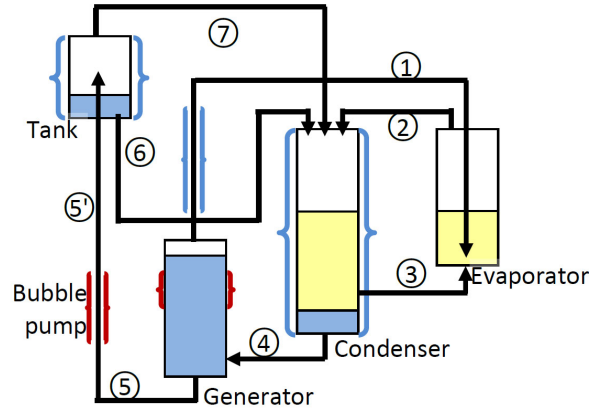

Figure Q2
2. Albert Einstein designed a 3.8 kW cooling capacity refrigerator (as shown in Figure Q2) operates at 0.4 MPa using butane, ammonia, and water. The temperature at generator, condenser and evaporator are 100°C, 35°C, and 5°C, respectively. Given the mass flow rate, m_1 , m_3 , and m_5 are 4.3 g/s, 3 g/s, and 2.8 g/s, respectively, and void fraction at the bubble pump is 0.8. Assuming no heat loss from bubble pump and tank, and only water is pumped to the tank from generator. Refer to the given properties diagram and data sheets.